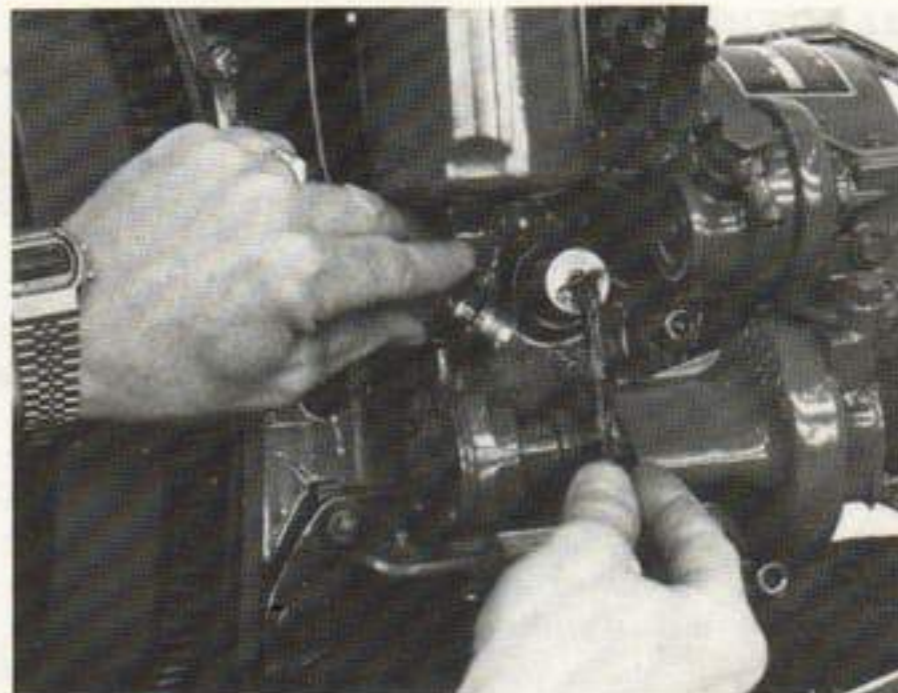

Fig. 15.
It is recommended to change the engine- and gear oil and to clean the lubricating oil filter (see fig. 15) after the first 20-25 hours of running.
1. Loosen banjo bolt on the screw cap (see fig. 15 page 15).